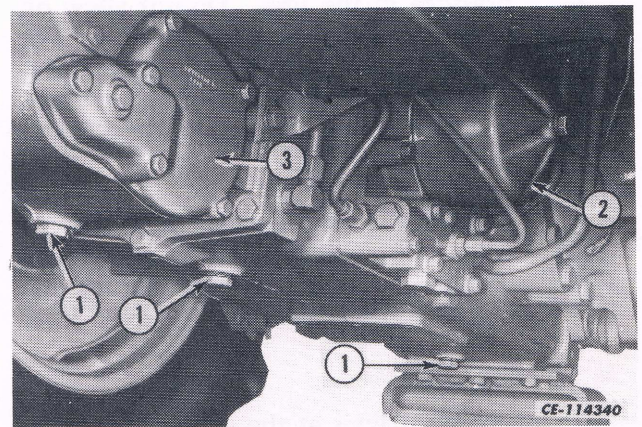

Fig. 34. Drain Plugs and Filter Location
6. Place a suitable pan under the three drain (1, Fig. 34) and remove the plugs. Allow the fluid to drain. Remove the level gauge to vent the housing and speed draining.
7. Replace the hydraulic filter element (2, Fig. 34). Refer to "HYDRAULIC FLUID FILTER" in this section.
8. HYDROSTATIC TRANSMISSION ONLY: Replace the hydrostatic transmission fluid filter (3, Fig. 34). Refer to "HYDROSTATIC DRIVE HOUSING, HYDRAULIC OIL FILTER AND BYPASS SCREEN" in this section.